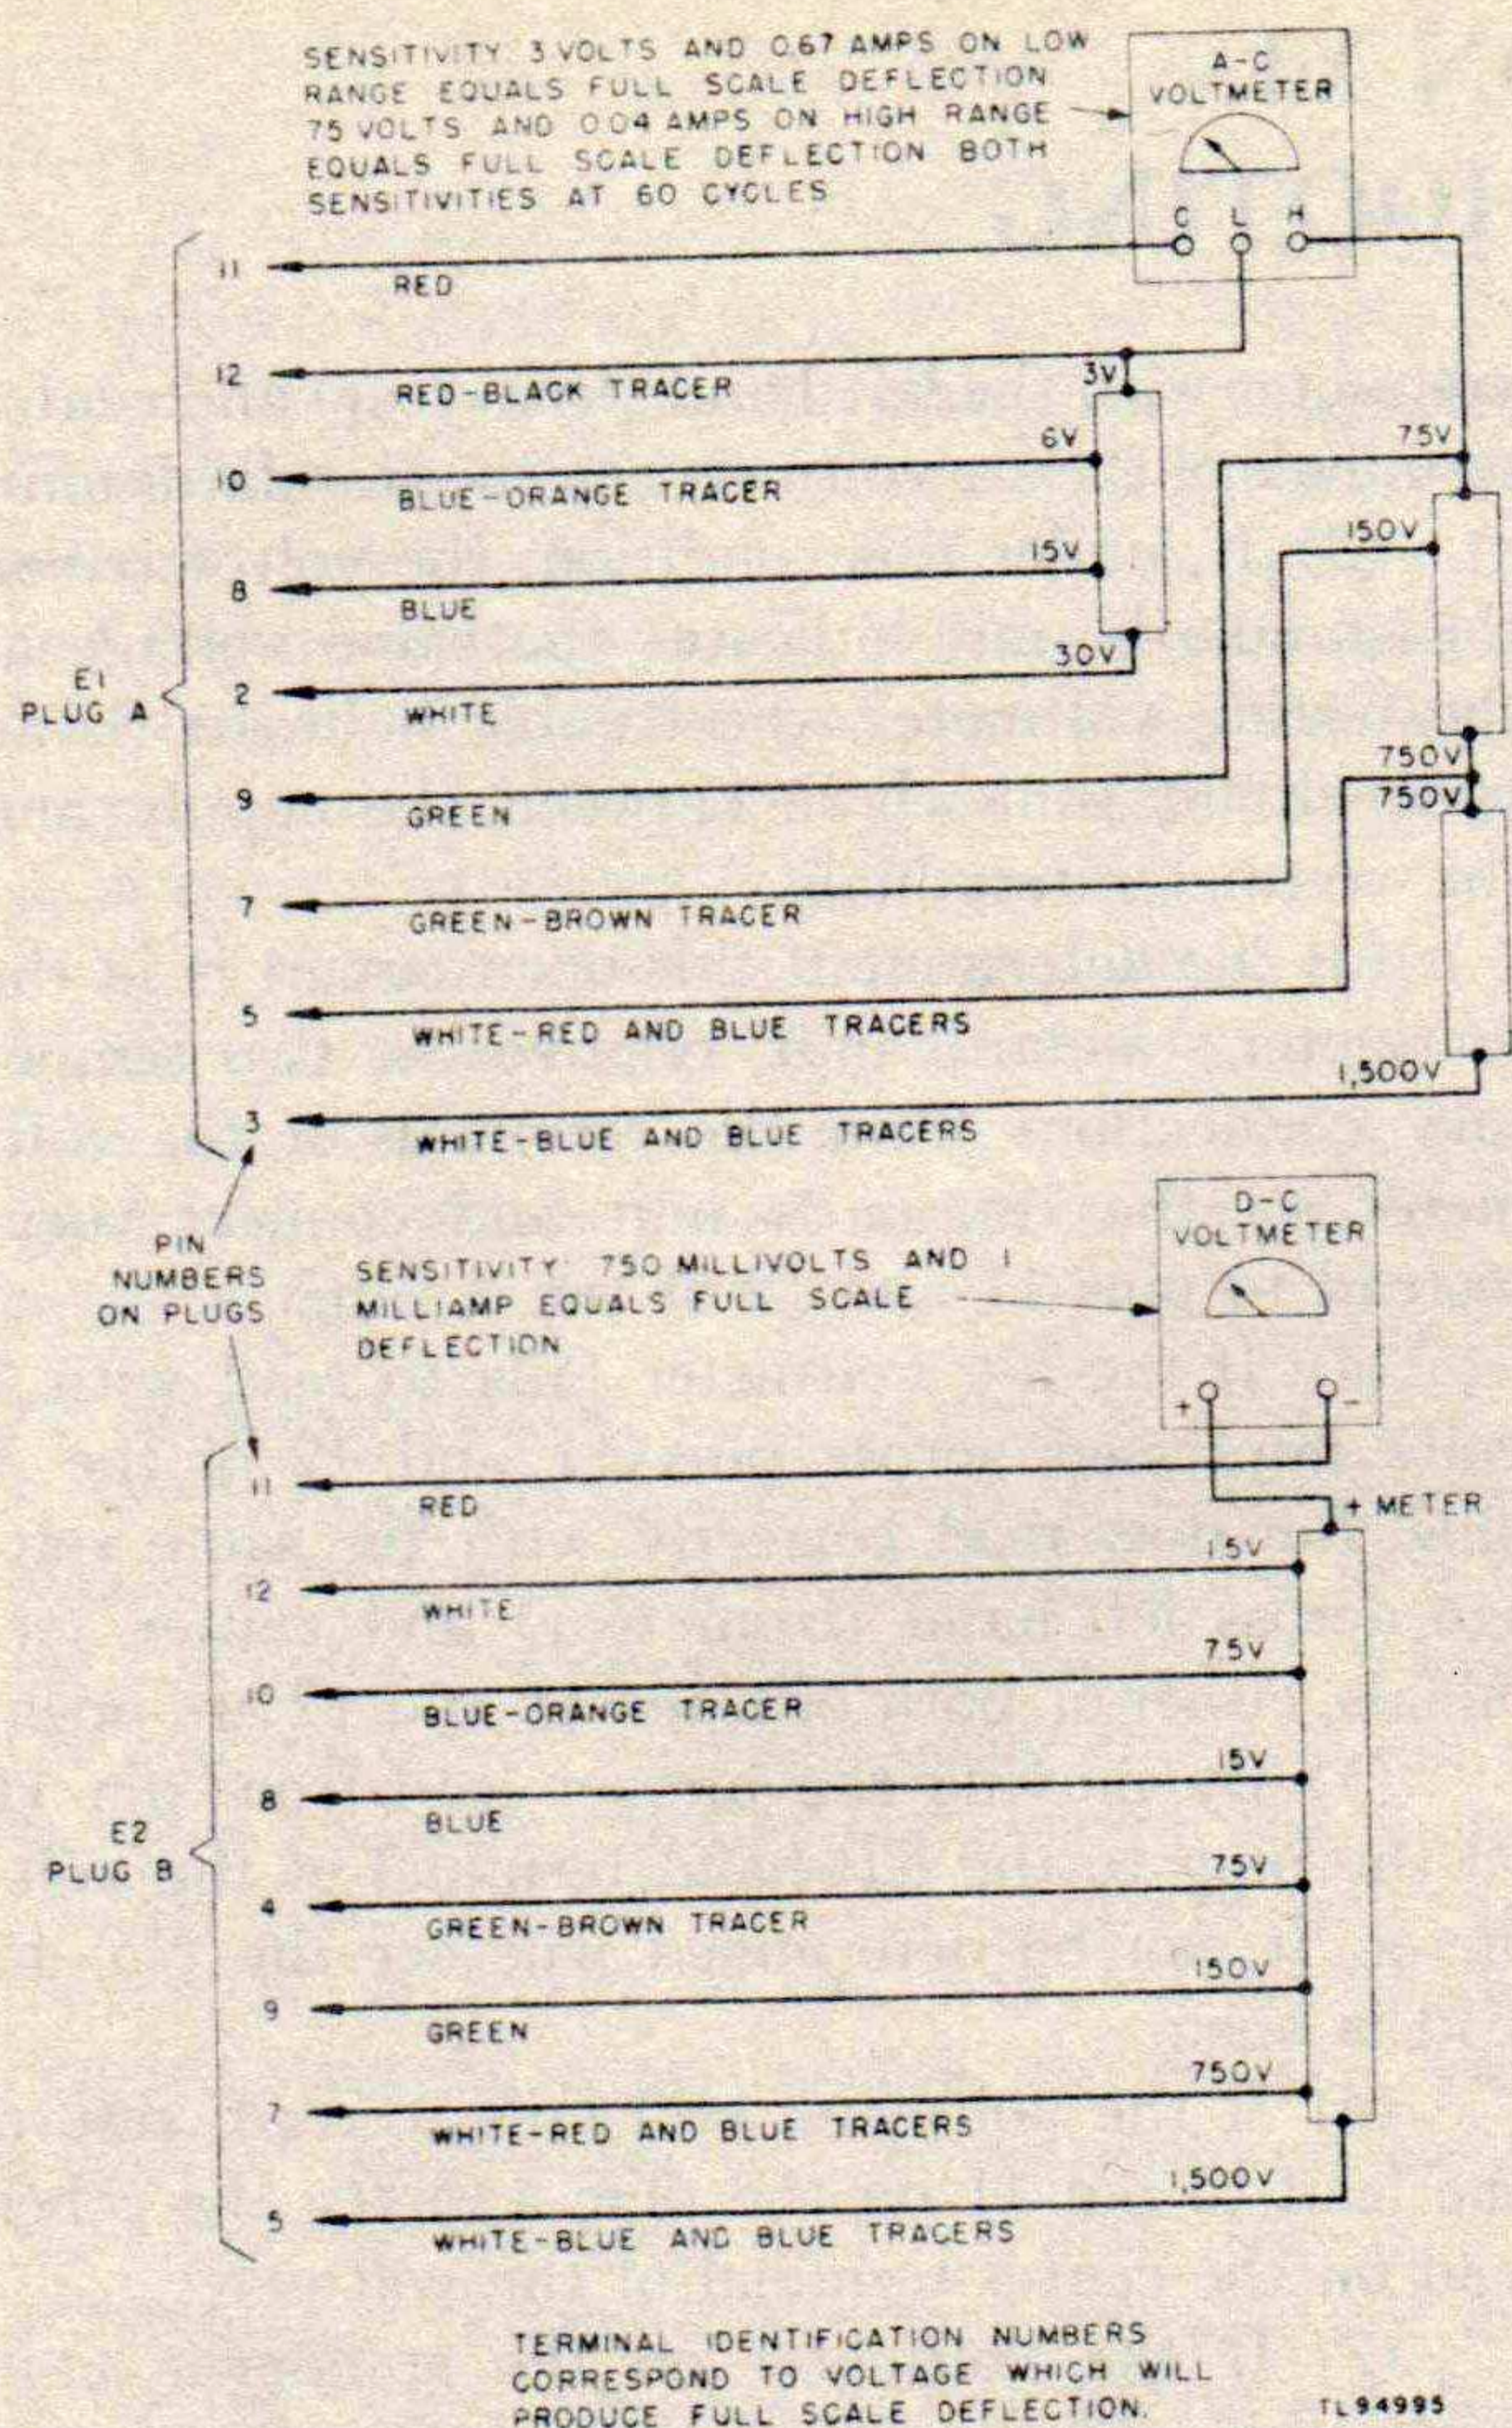
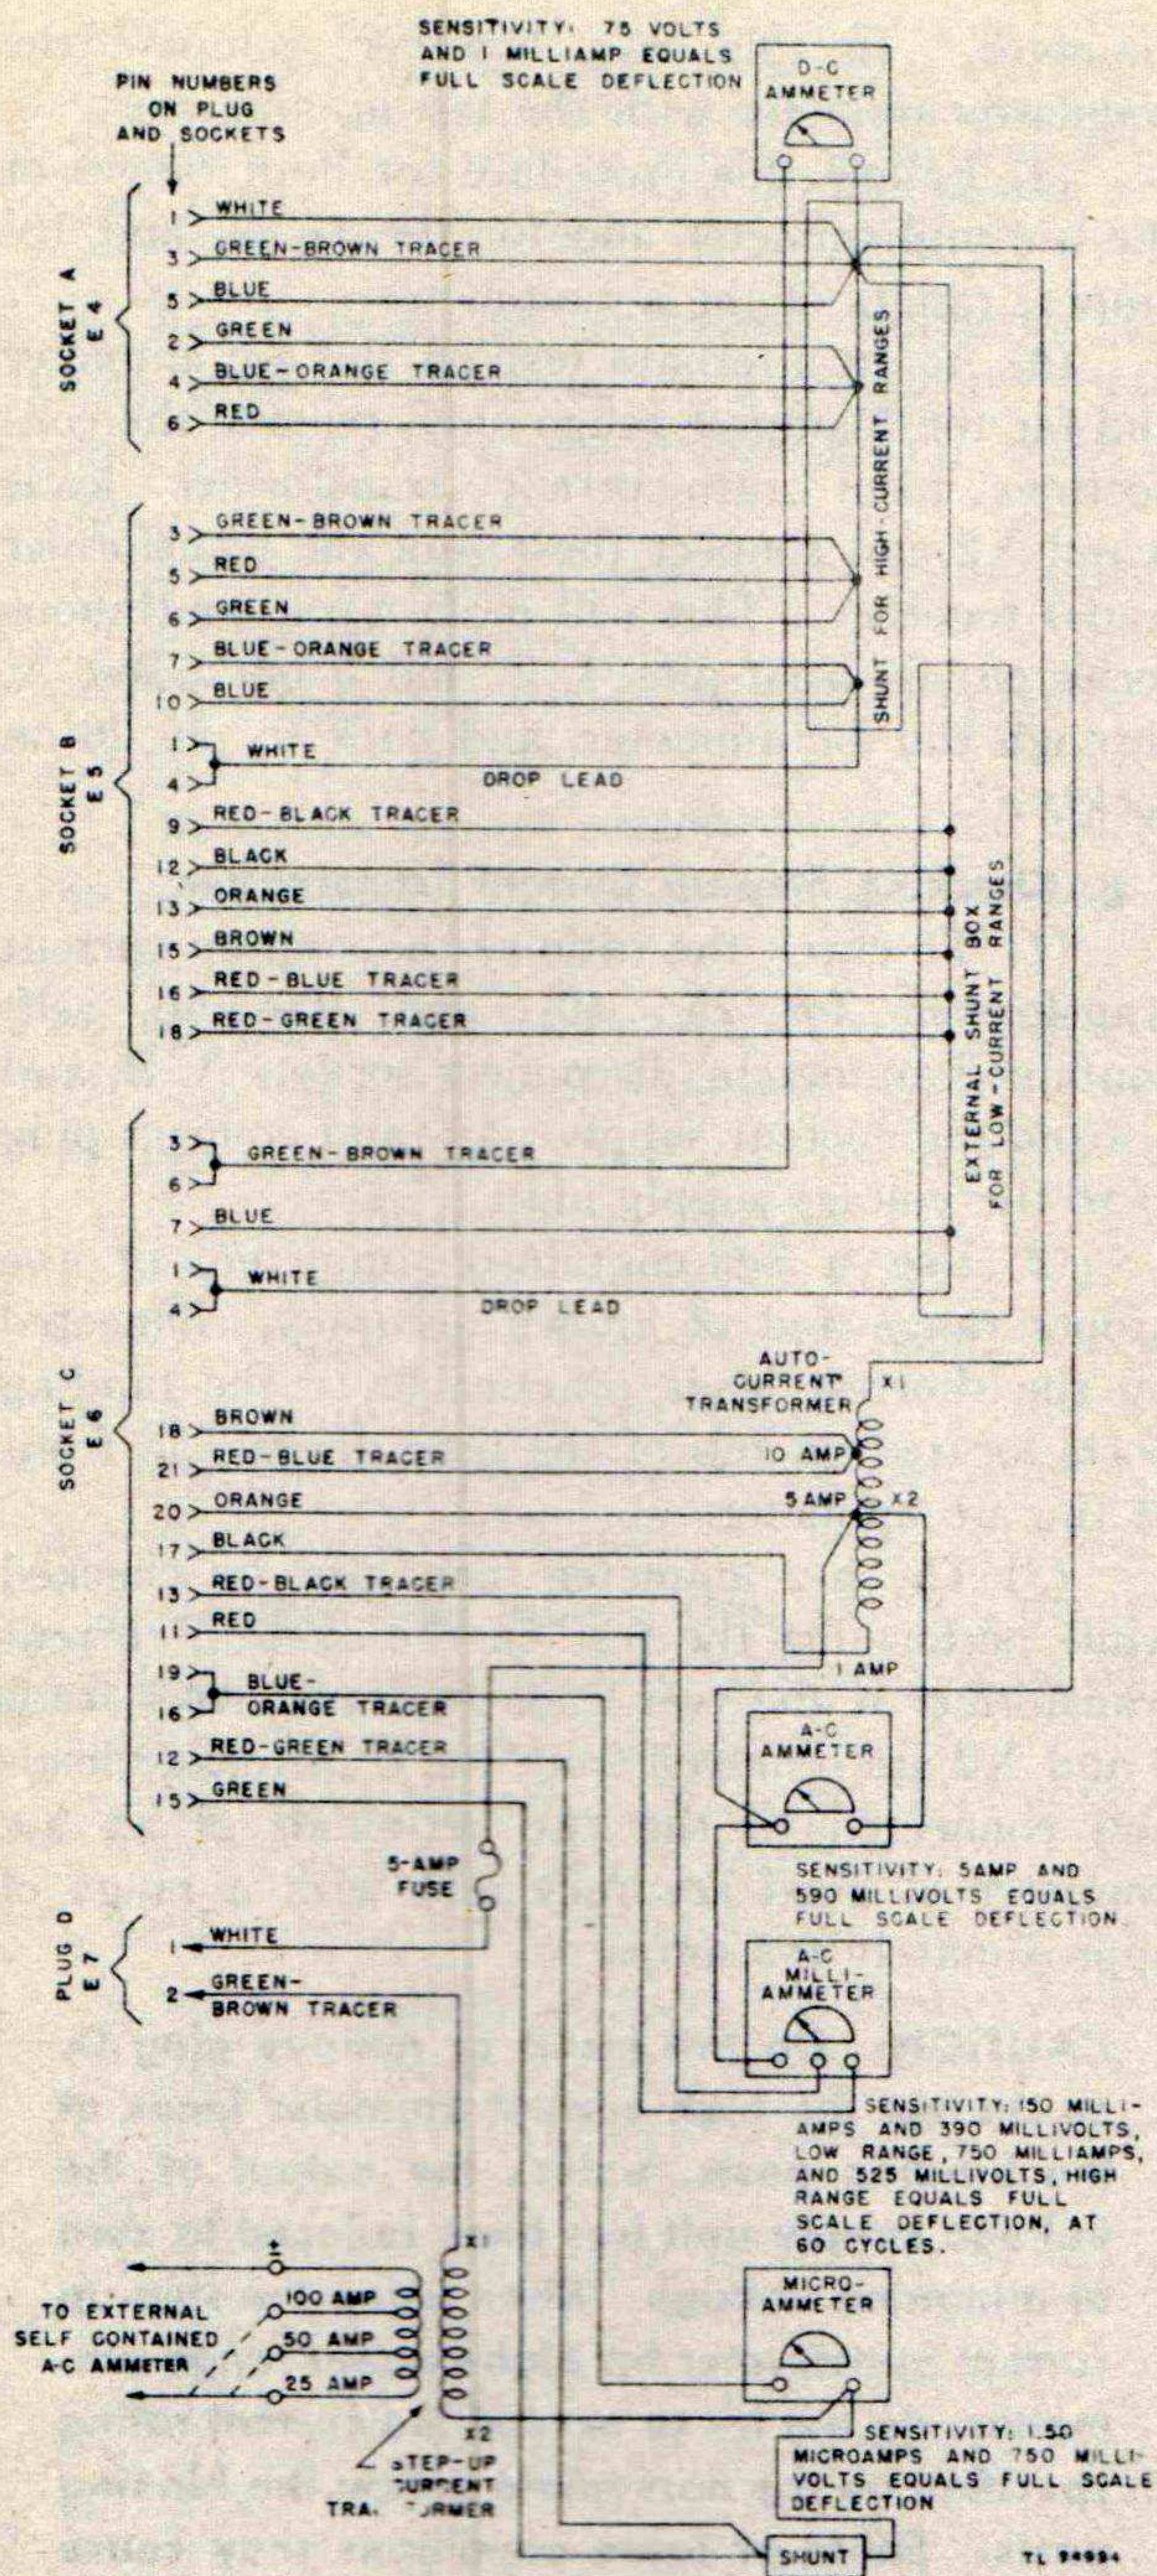

Figure 41. Voltmeter Standards Unit TS-49/GSM-1, internal schematic wiring diagram.
Figure 42. Ammeter Standards Unit TS-50/GSM-1, internal schematic wiring diagram.
80. VOLTMETER STANDARDS UNIT TS-49/GSM-1 (fig. 41).
(1) Check the d-c voltmeter for accuracy and for circuit continuity by using the same methods as outlined above (subpars. a through f) for the a-c voltmeter.
(2) Use the B plug and the proper pin numbers selected from the wiring diagram (fig. 41).
(3) Note that on d-c instruments, correct polarity must be observed.
81. AMMETER STANDARDS UNIT TS-50/GSM-1 (fig. 42).